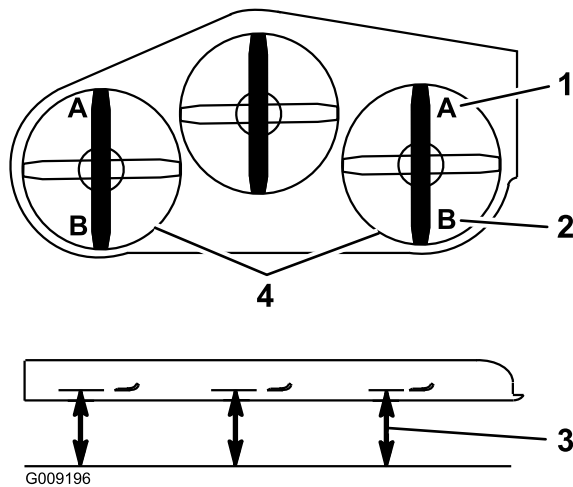

Figure 92
- 9. On both sides of the deck, measure from the level surface to the front tip of the blade (Position A) as shown in Figure 92.
16. On both sides of the deck, measure from the level surface to the back tip of the blade (position B) as shown in Figure 92.